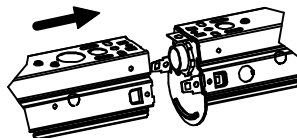
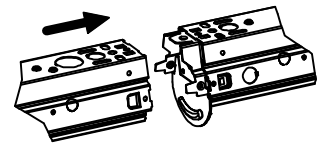

FIG 7A: ENDCAP JOINER ASSY
FIG 7B: FSSJ ASSY
- 3) Slide joiner assembly or FSSJ coupler accessory into fixture. Slide in next luminaire into joiner assembly as shown in FIG 7A or FIG 7B for FSSJ accessory.